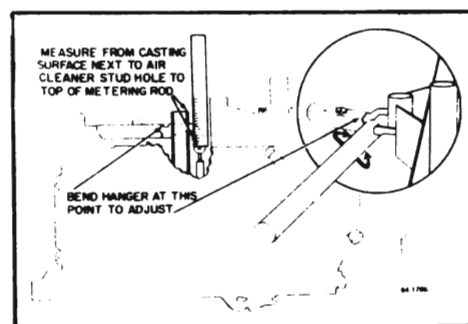

Figure 64-51 - Secondary Metering Rod Adjustment
1. Check secondary metering rod adjustment by measuring from top of each metering rod to top of air horn casting next to air cleaner stud hole. Measurement should be  $53/64$  in. See Figure 64-51.
2. Adjust, if necessary, by bending metering rod hanger at point shown in Figure 64-51. Make sure *both* rods are correctly adjusted.